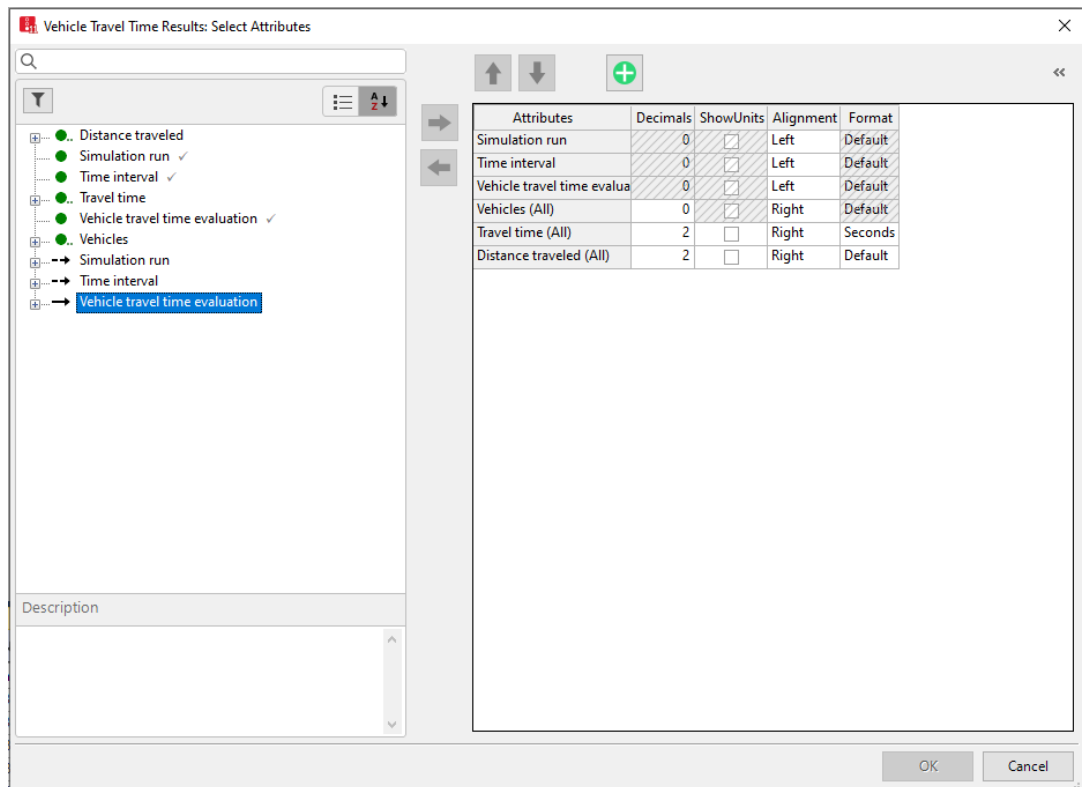

Figure 6: *Vehicle Travel Time Results: Select Attributes* Window
- step ii. While the default travel time metrics are often all you need let's add a few additional travel time metrics so you can see how that is accomplished. Select the wrench icon () in the *Vehicle Travel Time Results* Window. The *Vehicle Travel Time Results: Select Attributes* window should pop-up, Figure 6.